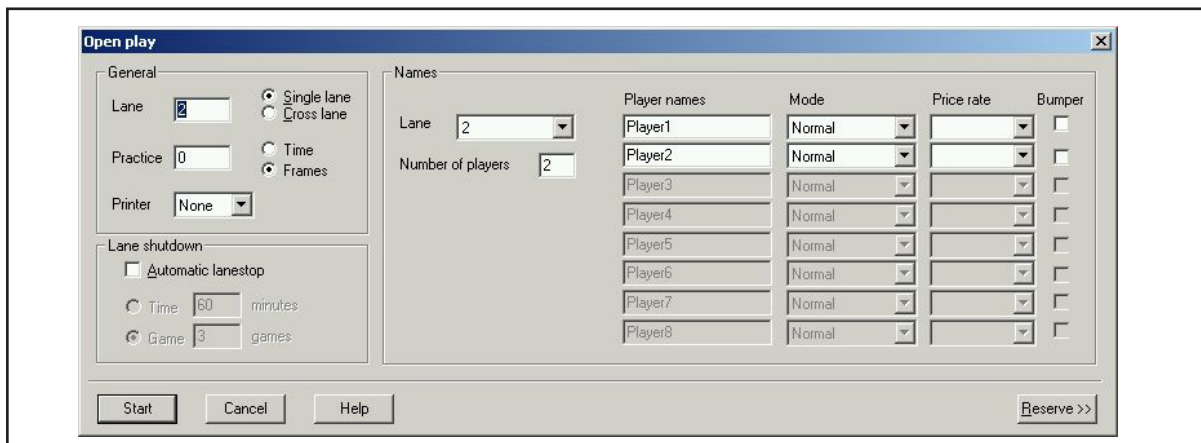

Figure 17. Open Play Menu
4. You can now assign the bumpers at the *Open Play* (F2) screen or the *Score Correction* (F11) screen. Refer to *Figure 17*.